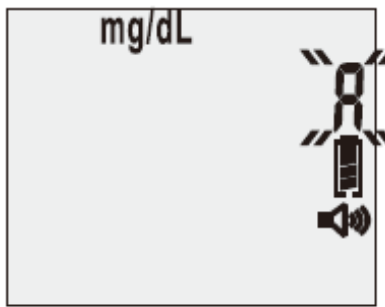

Figure 3-16
2. To flag an after-meal test, press the “**R**” right function button three (3) times after you hear: “**Apply blood now.**” You will then hear: “**Ready for test after meal.**” Apply blood to the edge of the strip. You will hear “**Testing in process**” (see Figure 3-16).